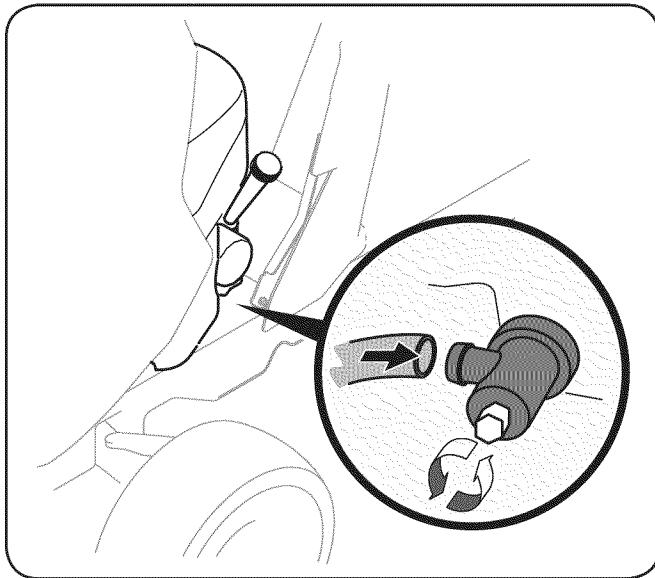

Figure 6-1
4. Push the oil drain hose (packed with this manual) onto the oil drain port. Route the opposite end of the hose into an appropriate oil collection container with at least a 2.5 quart capacity, to collect the used oil. See Fig 6-1.
5. Open the oil drain plug by loosening the bolt on the side of the plug. See Fig 6-1.